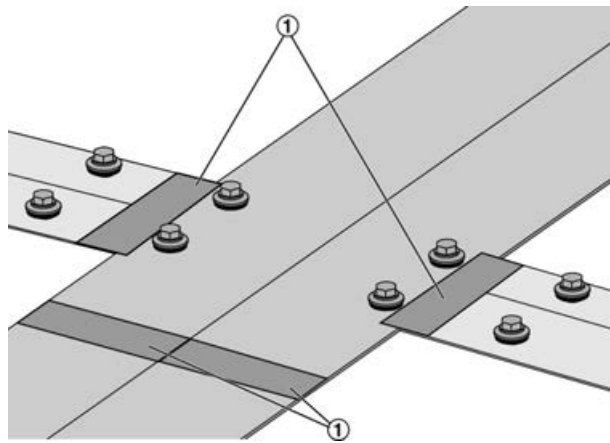

Fig. 22: Sealing the joints
2. ▶ Seal the joints (Fig. 22 /1) between the cover strips with the supplied adhesive strips (100 x 40 mm).